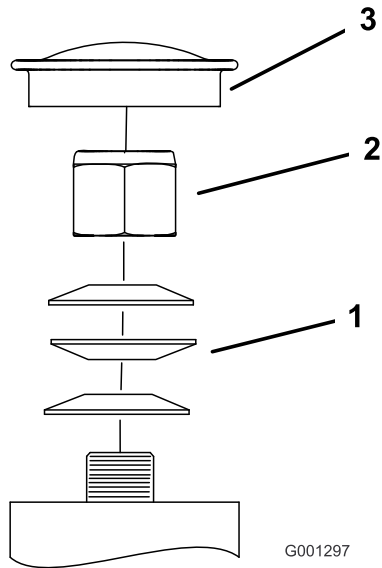

Figure 68
3. Remove the dust cap from caster and tighten the locknut (Figure 68).
- Tighten the locknut until the spring washers are flat and then back off a 1/4 turn to properly set the pre-load on the bearings (Figure 68).
Important: Make sure the spring washers are installed correctly as shown in Figure 68.
- Install the dust cap (Figure 68).